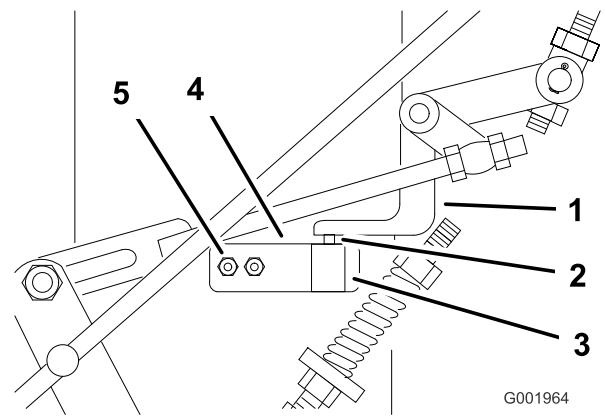

Figure 45
9. Check the travel of the shift lever in the control panel slot. The shift lever travel should be approximately centered in the control panel slot (Figure 45).
11. With the speed control lever in the neutral position, check to make sure the safety switch is depressed and there is an 1/8 to 1/4 inch (3 to 6 mm) space between the actuating tab and the safety switch (Figure 45)..